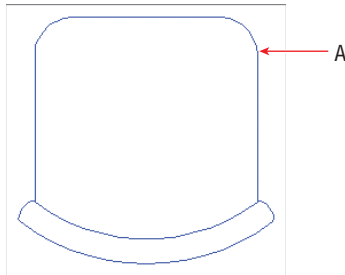

FIGURE 7.23 Drawing an armrest
4. For the first corner, click point A, as shown in Figure 7.23. Then type **@3,-10** (or **@7,-25** for metric), and press Enter to complete the RECTANGLE command.